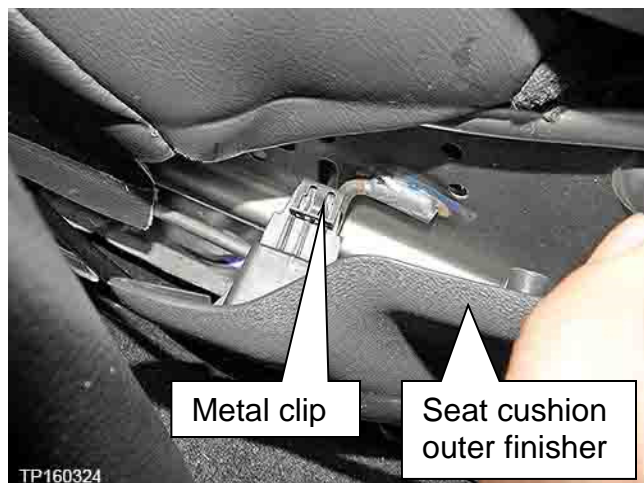

Figure 11
15. Slide the seat cushion outer finisher (LH) past the loose seatbelt buckle and then snap it into place.
NOTE: Align and attach the forward metal clip of the seat cushion outer finisher (LH) first (Figure 11), and then the remaining plastic clips.
6. Select “R1608 & R1609 ACU Reprogram” on ASIST under Specialty Tools (Figure 11).